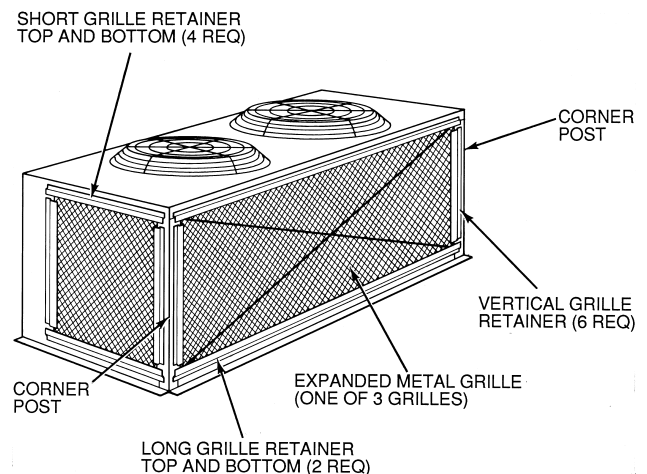

Fig. 1 — Grille Assembly
2. Install (but do not tighten) one of the long horizontal grille retainers to the lower part of the unit, with flanged portion flush with basepan. Use supplied self-tapping screws to install retainers. See Fig. 1 and 2.